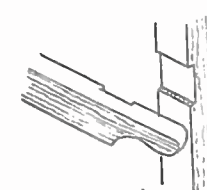

Fig. 4
For the carrying handles (A) lengths of 1in. by 2in. hardwood, preferably ash or oak, should be chosen. Some strain comes on these when the stand and aquarium are lifted and a breakage of the handles may spell disaster, at least to the fish. The handles are shaped at the ends and glasspapered to provide a smooth, comfortable grip. They are grooved into the legs as shown in the detail sketch (Fig. 4), the grooves in both being 1/4 in. deep.